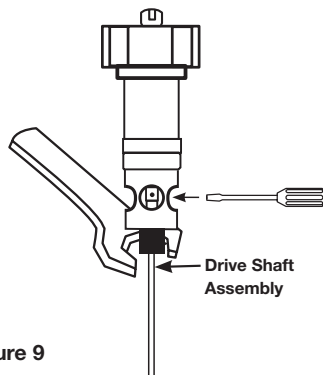

Figure 9
- Insert a small screwdriver (or similar object) through the small hole on the shaft located inside the mechanical seal inspection port (see Figure 9).
- While holding the small shaft still, loosen (counterclockwise) the pump drive shaft with large wrench. (see Figure 9).
- Thread drive shaft onto bearing housing shaft (see Figure 9).